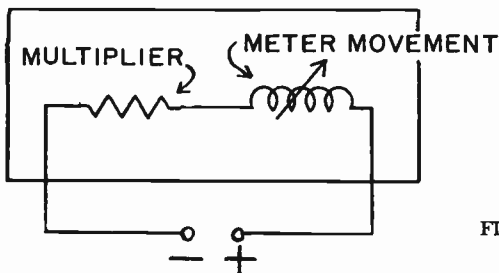

FIG. 3-16A. THE BASIC VOLTMETER CIRCUIT.
**THE VOLTMETER.** By adding a high resistance in series with the basic D'Arsonval movement, we convert it to a **VOLTMETER**. This is shown in Fig. 3-16A. The series resistor is called a multiplier and it limits the flow of current through the delicate meter movement.